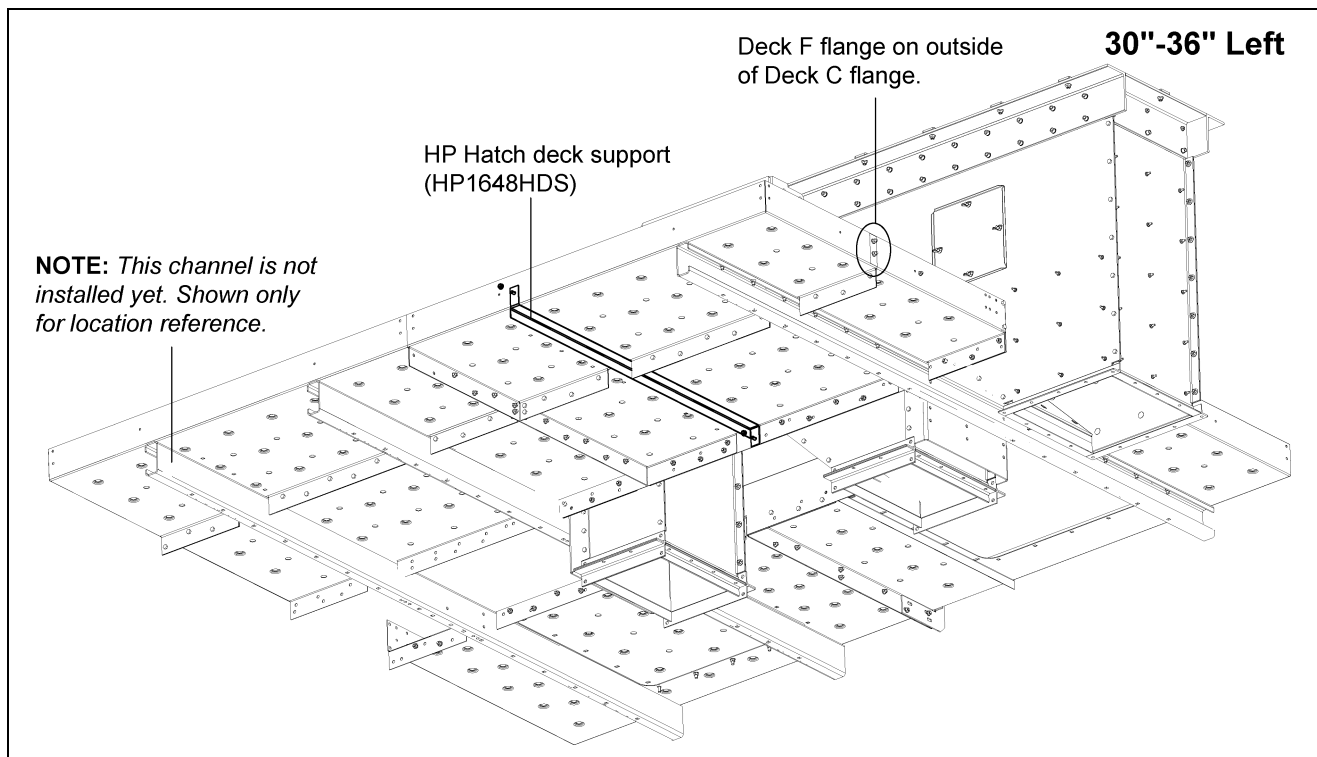

Figure 9N
7. Install the head platform hatch deck support (HP1648HDS) under Deck C and Deck F using 3/8" x 3/4" bolt (S-7105) and nut. (See Figure 9N.) **NOTE:** You may need to remove a bolt from the toe board if one was installed in this location.